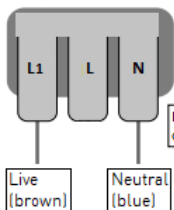
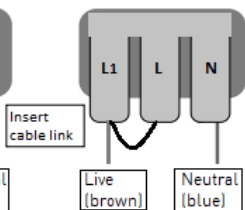
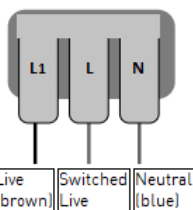

Fig. 3
Fig. 4
Fig. 5
- Wire for non-maintained operation (Fig. 3), maintained operation (Fig. 4) or switched maintained operation (Fig. 5) as required